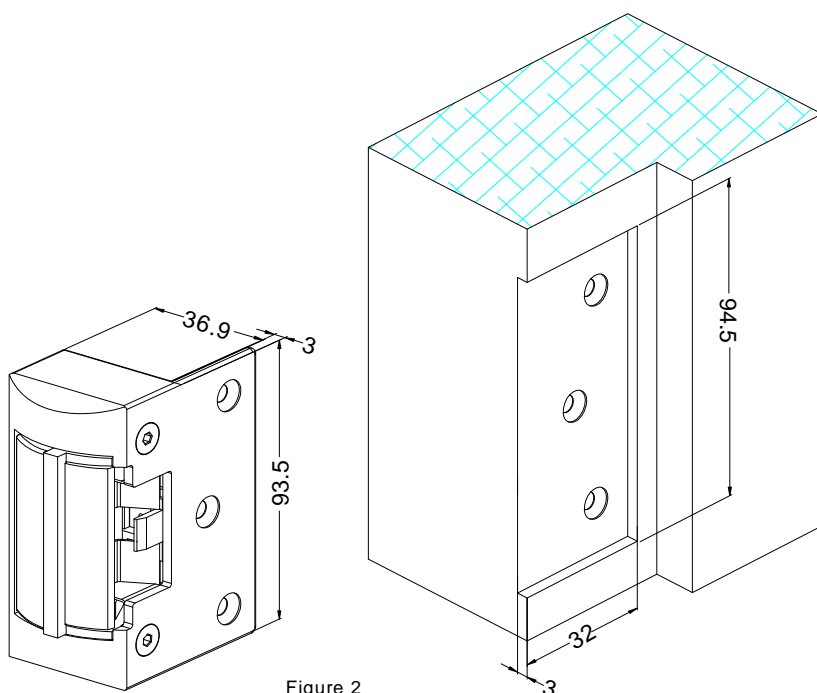

Figure 2
- 1). Position the strikes against the frame, mark and drill the hole sizes as shown on Figure 2 and 3.